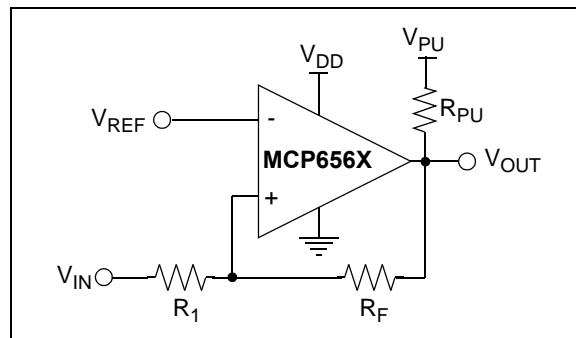
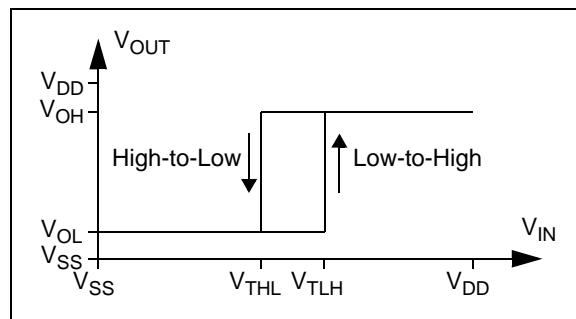

FIGURE 4-4: Non-Inverting Circuit with Hysteresis for Single-Supply.
FIGURE 4-5: Hysteresis Diagram for the Non-Inverting Circuit.
Figure 4-4 shows a non-inverting circuit for single-supply applications using just two resistors. The resulting hysteresis diagram is shown in Figure 4-5.
The trip points for Figures 4-4 and 4-5 are:
2. Non-inverting Configuration (Figure 4-4):